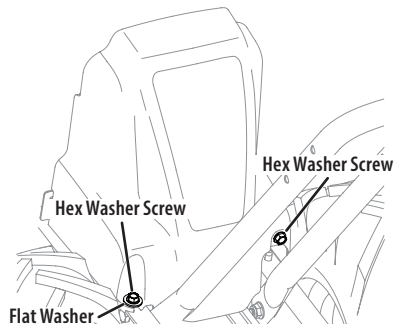

Figure 23
3. Remove the hex washer screw (1/4-20 x .500) and flat washer (.28 x .74 x .500) from the left side of the belt cover (if so equipped) and the hex washer screw (1/4-20 x .500) from the right side of the belt cover. Remove the belt cover. See Figure 23.